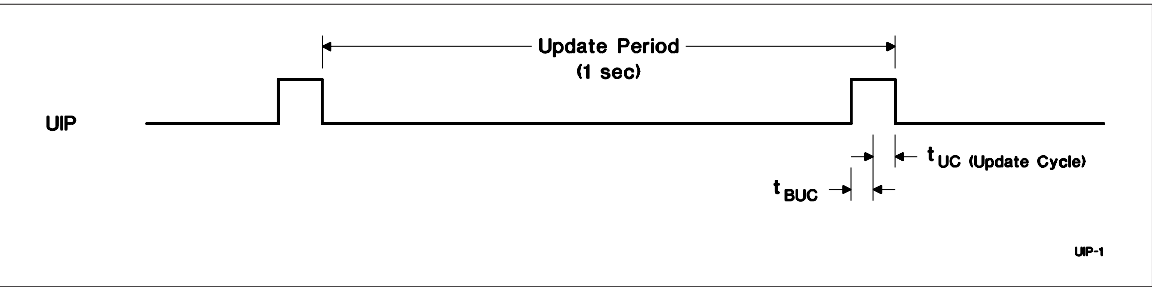

Figure 2. Update Period Timing and UIP
dar locations during the update cycle at the end of each update period (see Figure 2). The alarm flag bit may also be set during the update cycle.
The update-in-progress bit (UIP) in register A is set t_{BUC} time before the beginning of an update cycle (see Figure 2). This bit is cleared and the update-complete flag (UF) is set at the end of the update cycle.